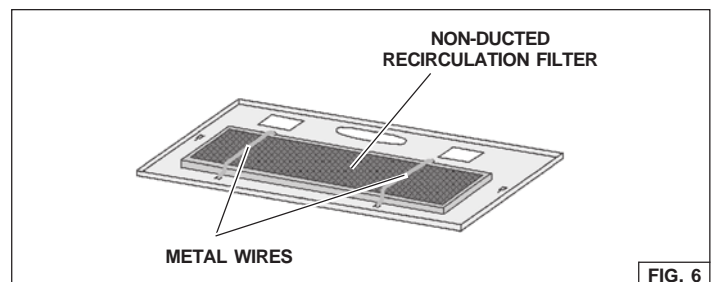

FIG. 6
2. Install the Non-ducted recirculation filter over the grease filter and secure it with the metal wires supplied with the Non-ducted recirculation Filter (Fig. 6).